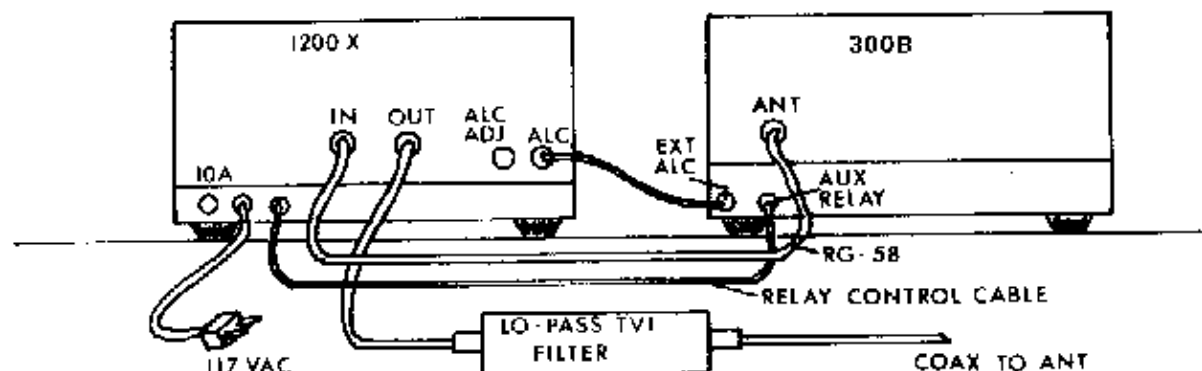

FIGURE 1. REAR VIEW – TYPICAL INSTALLATION USING SWAN 270B OR 300B
1. Refer to the pictorial in Figure 1 when making the installation. Connect a short length of coaxial cable (RG-58 or RG-8) from the transceiver or exciter to the coaxial input jack on the 1200-X. A PL-259 type connector is required at the amplifier end of the cable. This cable should be as short as practical and preferably not more than 5 feet long.